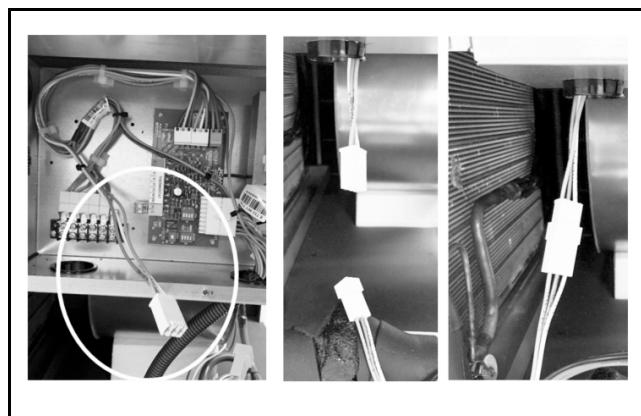

Fig. 19 Connect the Electric Heat Harnesses
10. In the main Air Handler unit Electrical box, locate the Electric Heat plug ((Blue (W2/EM), White (W1), and Gray (C) wires) labeled J-12 and mate to its counterpart plug labeled P12 in the Electric Heat Wiring Harness. (See Fig. 19.)